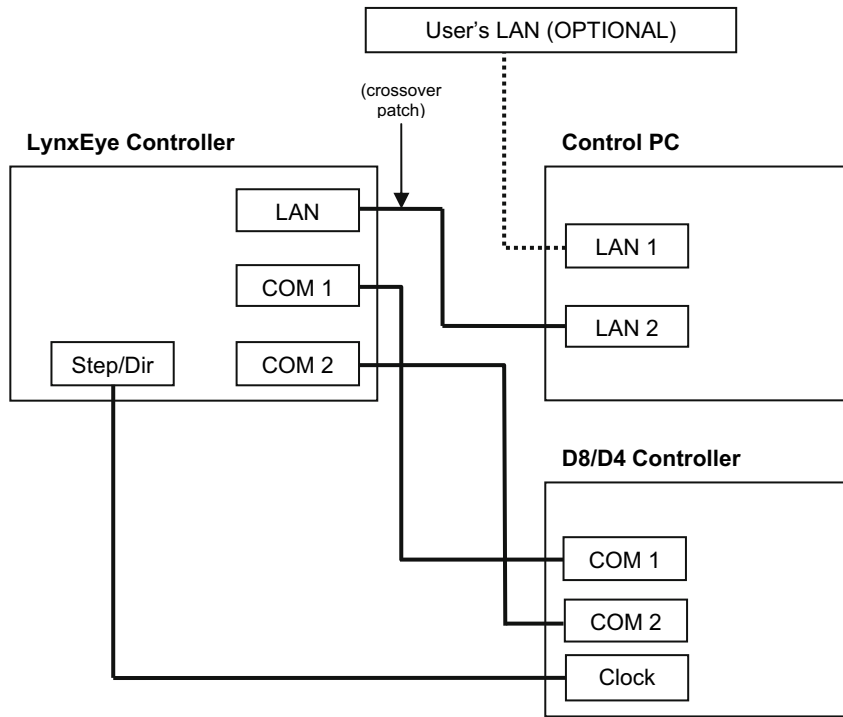

Figure 6.1 Wiring of the LynxEye detector controller
12.Connect all components as shown in Figure 3.6 and Figure 6.1.
The parameters for communication need to be defined by the user and are stored in the device.ini file. The DIFFRAC^{plus} Configuration program is used to set the parameters. Perform the following steps to configure the system (see Figure 6.1 for the cabling scheme).